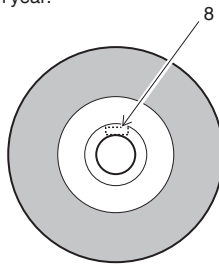

Fig. 10
- When you use the abrasive cut-off wheel check the expiration year marked (8) on the wheel before attaching. (**Fig. 10**)